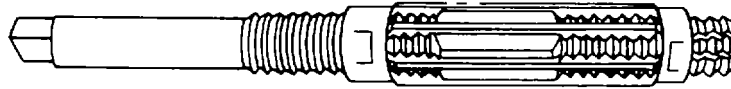

Figure 4-92. Adjustable Reamer
(1) *Adjustable, inserted blade, straight fluted (hand), per GGG-R-180, type 111, class 1, grade A.* These reamers are fitted with removable cutting blades, which are adjustable for reaming holes of any size within the range for which the reamer was designed. These reamers have straight, round shanks with square ends and contain slots for holding the blades. The reamer assembly is capable of reaming round, straight, and smooth holes. This reamer is shown in figure 4-92.